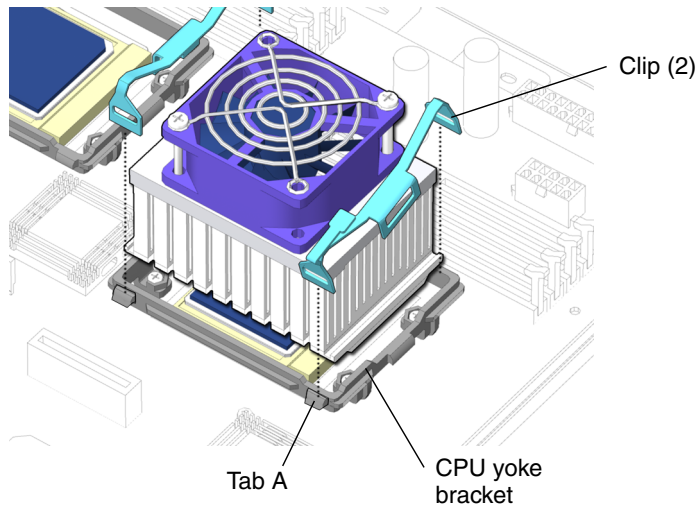

FIGURE 11-15 Installing the Clip on Tab A
4. Place the CPU fan and heat sink assembly onto the CPU (FIGURE 11-15).
- a. Place the right CPU fan and heat sink assembly clip over CPU yoke bracket tab a (FIGURE 11-15).